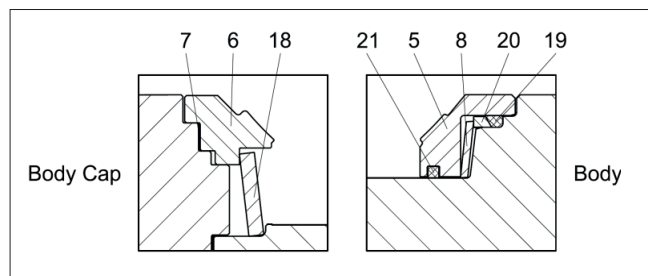

Figure 17. Bidirectional Seat Assembly
- Place the back seal (19) and supporting ring (20) all the way into the body counter bore. Slide the disc spring (8) down over this, minding its orientation. If your valve comes with a square braided dust seal (21) assemble it into the seat (5) now. Slide the seat into the bore and over the other seating components. See Figure 17.
- Place the disc spring (18) into its bore so that it is tapered towards you with its larger diameter sitting towards or on the ball. (Figures 17, 18).
- Set the seat (6) into the spring (18) resting it on the ball (4).